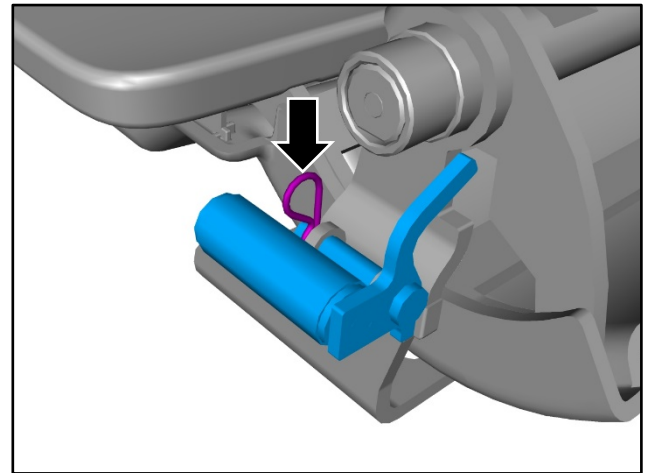

Figure 40
3. Install the lock mechanism (refer to Figure 40).